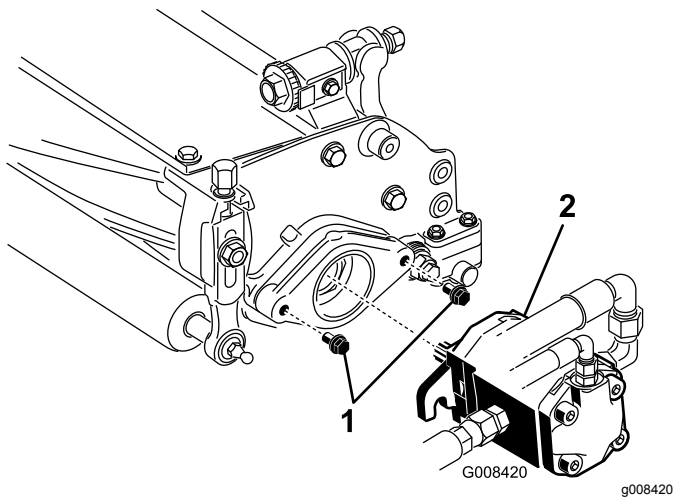

Figure 11
- Ensure that there is approximately 13 mm (1/2 inch) of the threads exposed on each reel-drive-motor mounting bolt (Figure 11).
8. Coat the motor spline shaft with clean grease and install the motor by rotating the motor clockwise so that the motor flanges clear the studs. Rotate the motor counterclockwise until the flanges encircle the studs (Figure 11).
9. Tighten the mounting bolts (Figure 11).